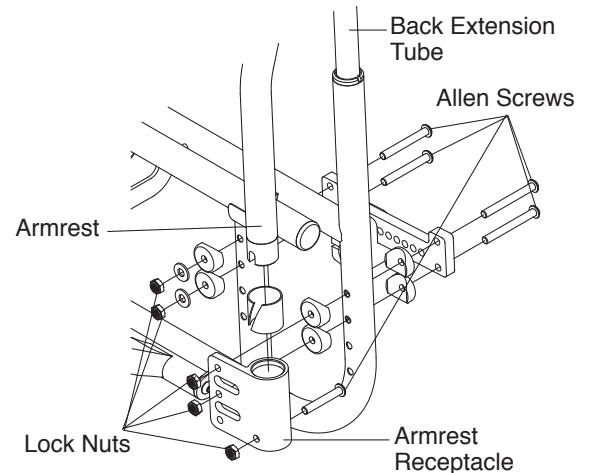

Figure 20
4. If your chair is equipped with stroller handles or swing-away armrests, remove the four Allen Screws (two on each side of the chair) that secure the Axle Plate and stroller handle or armrest brackets to the frame. Carefully note the order in which the various washers and nuts were originally installed on the chair as you will need to reinstall all of these parts in Step 6 below. See Figure 20.